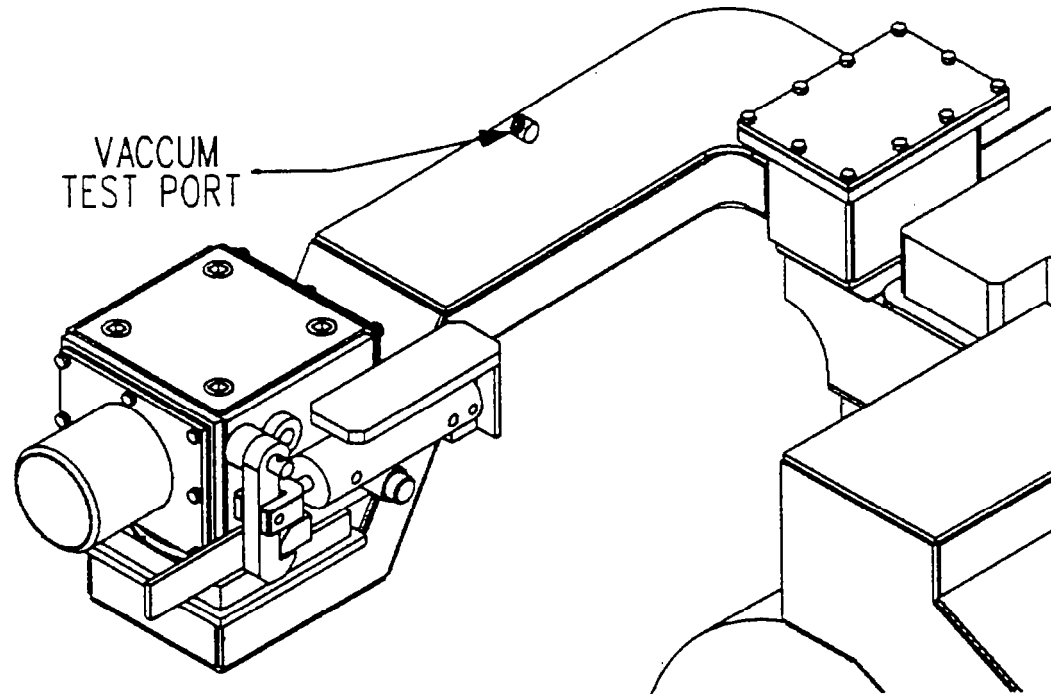

Figure 14: Intake Vacuum Port
20. ( ) Connect a manometer or magnehelic to the intake vacuum Port shown in Figure 14 or Figure 15. Run the engine at full throttle with no load. The intake vacuum does not exceed thirty (30) inches of water.